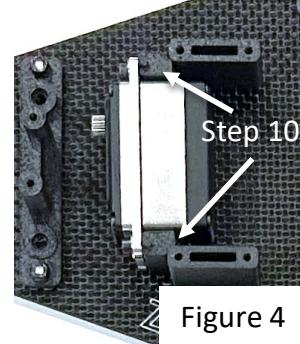

Figure 4
- Step 10:** Secure both the left and right servo mounts onto your servo using your original 4-40 screws. See Figure 4 for servo mount orientation. **Note:** On your new XX², you no longer have to cut your bottom servo ears. If you want to use screws on the bottom servo hole, make sure it is a short screw (.375") to not interfere with the chassis mount hole.